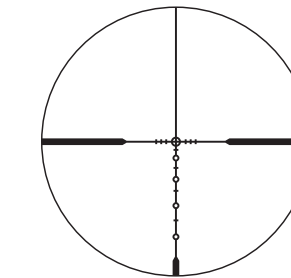
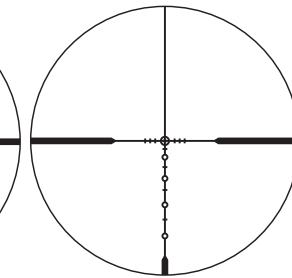

Fig. 3-1
Fig. 3-2
(1) Focusing
- ① Look through the eyepiece with your eye positioned about 10 cm (4 in) away from the eyepiece to see the BDC SuperSub Reticle (Fig. 3-1) or Illuminated BDC SuperSub Reticle with Dot (Fig. 3-2). Be sure your eye is positioned with proper alignment and with proper eye relief, otherwise the view will “black out.”
- ② Point the objective end of the scope at the sky (do NOT point it at the sun) or at a plain unpatterned wall.
- ③ Turn the eyepiece adjustment counter-clockwise and then turn it clockwise until the reticle appears sharp.
(2) Magnification